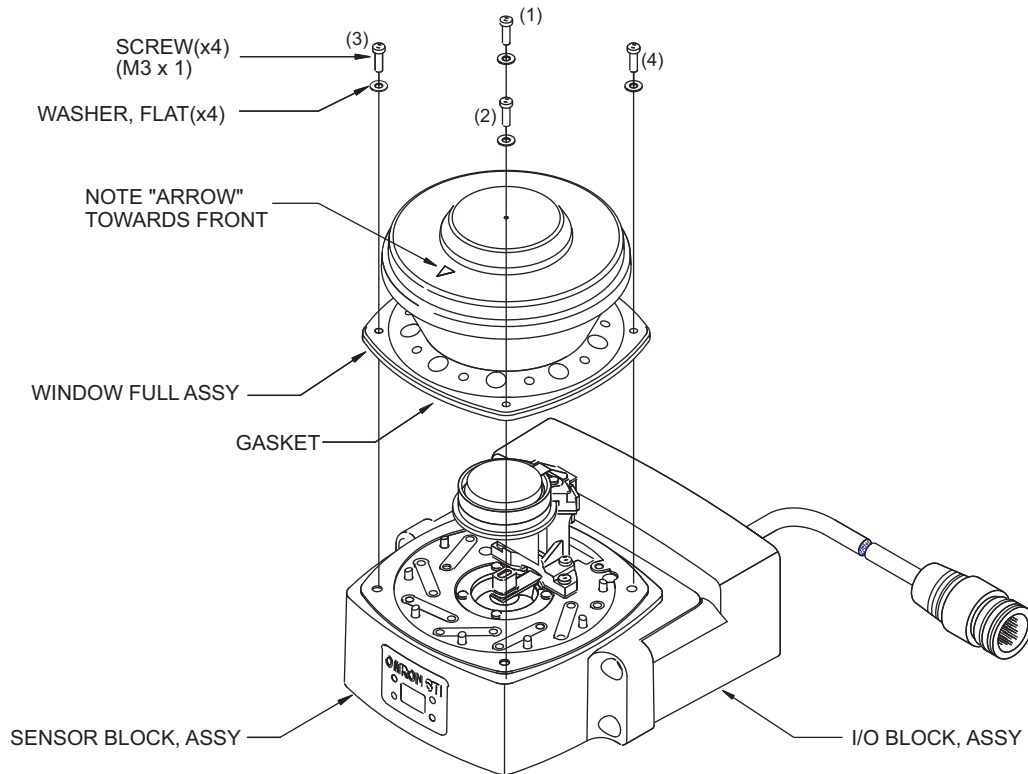

Fig. 7-14 Window Replacement
7. While applying even pressure to the top of the window, evenly tighten the four screws with flat washers in an alternating pattern ( Fig. 7-14). It is recommended that the screws be tightened to a torque of 0.56 N•m (5.0 lb-in).